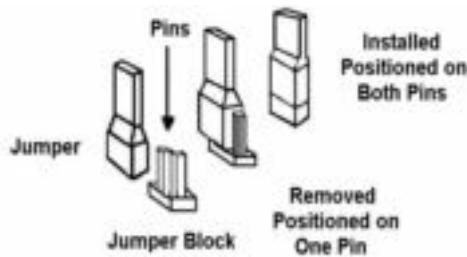

FIGURE 9 - Jumper Placement on Pins
- To remove a jumper, reposition the jumper so that it is connected to only one pin on the jumper block. Keep the jumper because it may be needed in the future. To install a jumper, position the jumper on both pins. See Figure 9.